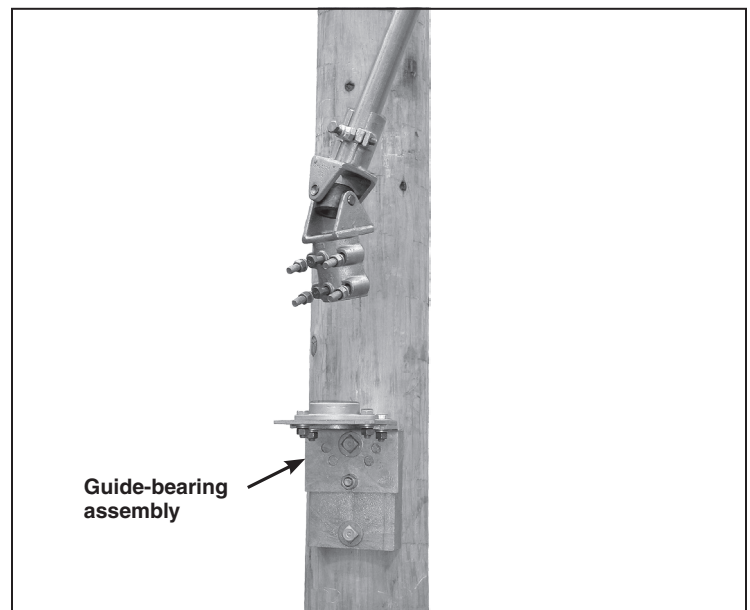

Figure 23. Install the guide bearing.
STEP 22. Position and install the guide-bearing assembly on the pole in accordance with the dimension shown on the erection drawing. See Figure 23.